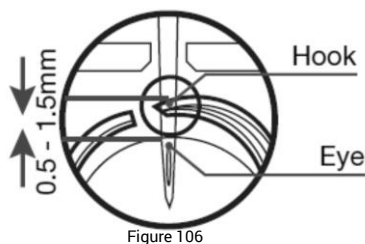

Figure 106
- The space of the needle and the hook of 0.1 ~ 0.3 mm is proper. See Figure 106 for example.